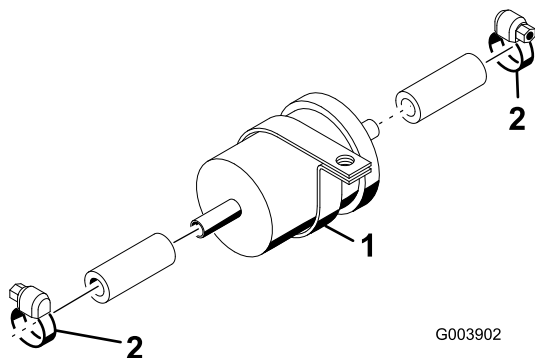

Figure 56
3. Loosen the hose clamps at both ends of the prefilter and pull the fuel lines off of it (Figure 56).
5. Push the fuel lines onto the new prefilter and secure them with the hose clamps (Figure 56).